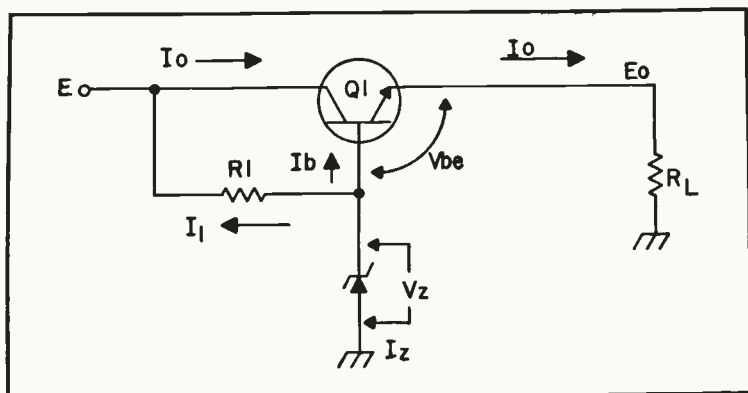
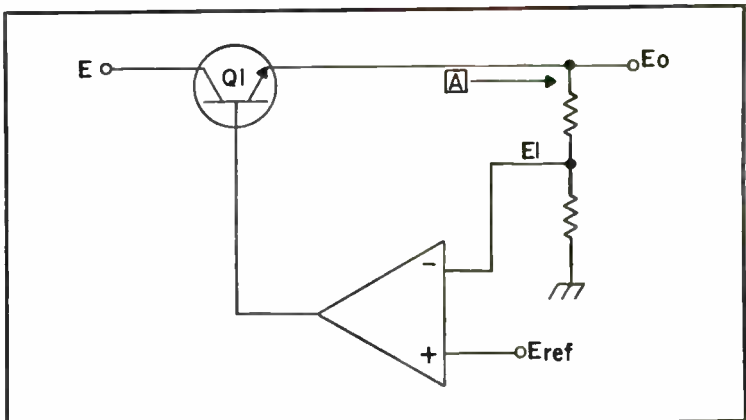

Fig. 10-36. Series-pass Zener regulator.
Fig. 10-37. Feedback amplifier/series-pass regulator.
**Series-Pass.** Figure 10-36 shows a method for using a series-pass transistor to boost current capacitor of a zener diode.
The circuit shown in Fig. 10-36 is but one type of series-pass regulator. The circuit shown in Fig. 10-37 is the other major type. In this circuit, the base voltage on the series-pass transistor is controlled not by the zener but by a differential *error amplifier*. There are two inputs to this amplifier. The noninverting input is connected to a reference potential,  $E_{ref}$ , while the inverting input is connected to a sample of the output voltage (in many cases, the sample is the full potential, so  $E_1 = E_o$ ). As long as the output potential matches the reference potential, the circuit is in equilibrium. But if  $E_o$  changes, then the error amplifier output changes in a direction and amount necessary to correct the error.